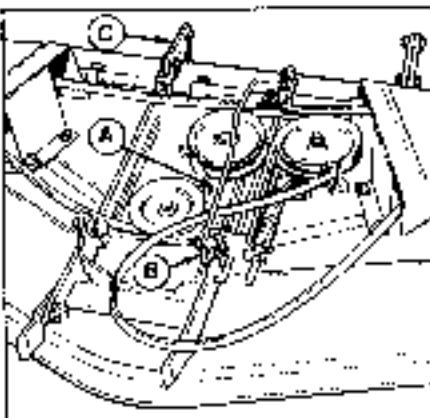
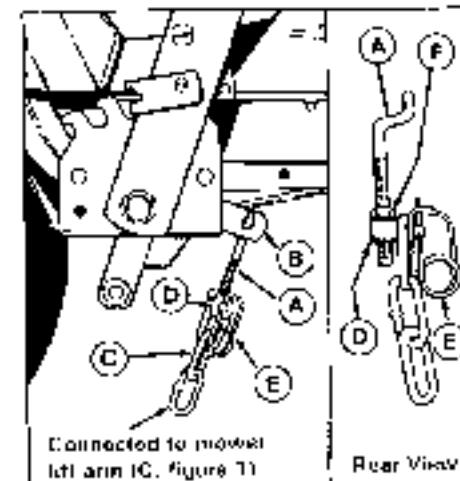
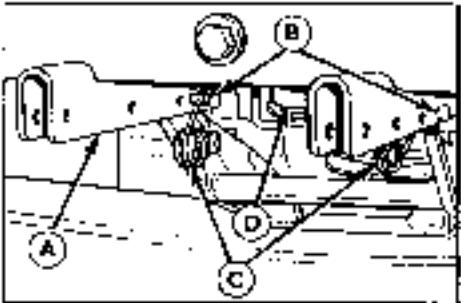

Figure 1. PTO Rod
Figure 2. Lift Chain
Figure 4. Mower Hitch Attached
2. Notice that one end of the PTO rod (A, figure 1) does not have a drilled hole to go through into the mower PTO arm (B) and work around until rod (A) appears as in figure 1.
- that the mower lift arm (C, figure 1) is under the tractor lift arm (B, figure 2).
6. Connect the chain (C, figure 2) to the trunnion (D) with a link (E); if optional electric lift is used, use only three links of chain.
7. Position the mower lift arms (C, figure 2) so they are underneath the rear holes in tractor hitch (A, figure 4). Lift up one side of mower with both hands
and align hole in mower lift arm with rear hole in tractor hitch. When holes align, use one hand to hold a part fit, figure 4; turn hitch. Go to the other side and insert the other part. Install the two safety clips (C) in the nuts.